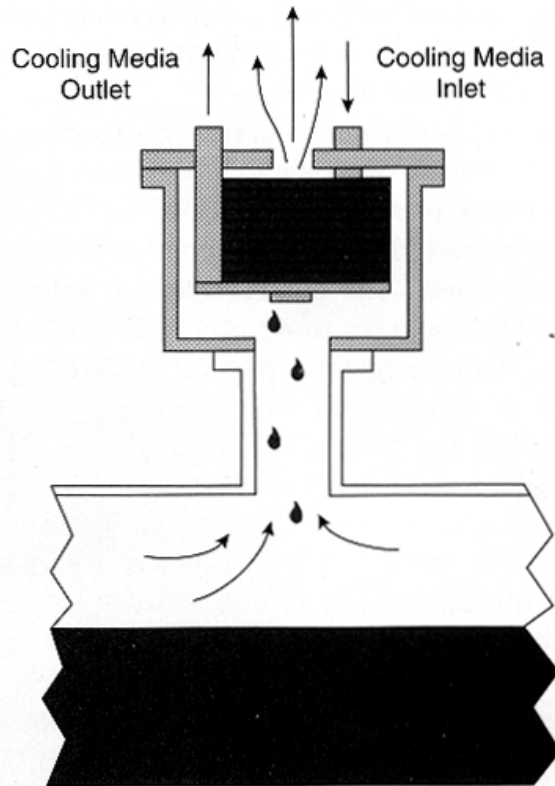

Fig. 3b
*Condenser design mounted external to vessel is commonly used with vent-condensing applications. (Fig. 3b)*